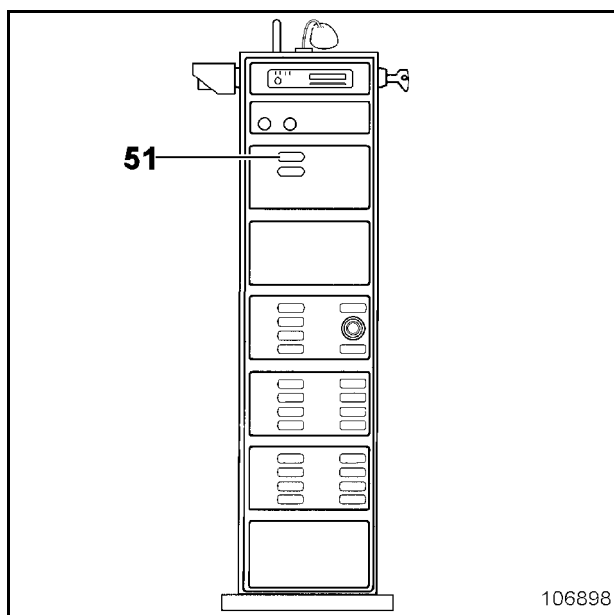

Fig. 2-67:
- Actuate switch-key (51, Fig. 2-67:), the electric motor is switched on.